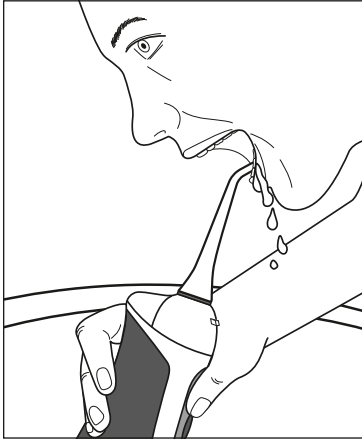

Fig. 1
- 4) Place the attachment **2** in your mouth to prevent spray. Bend over the washbasin and hold the handpiece **5** as upright as possible (see Fig. 1). Direct the nozzle **1** of the attachment **2** towards your teeth/interdental spaces.